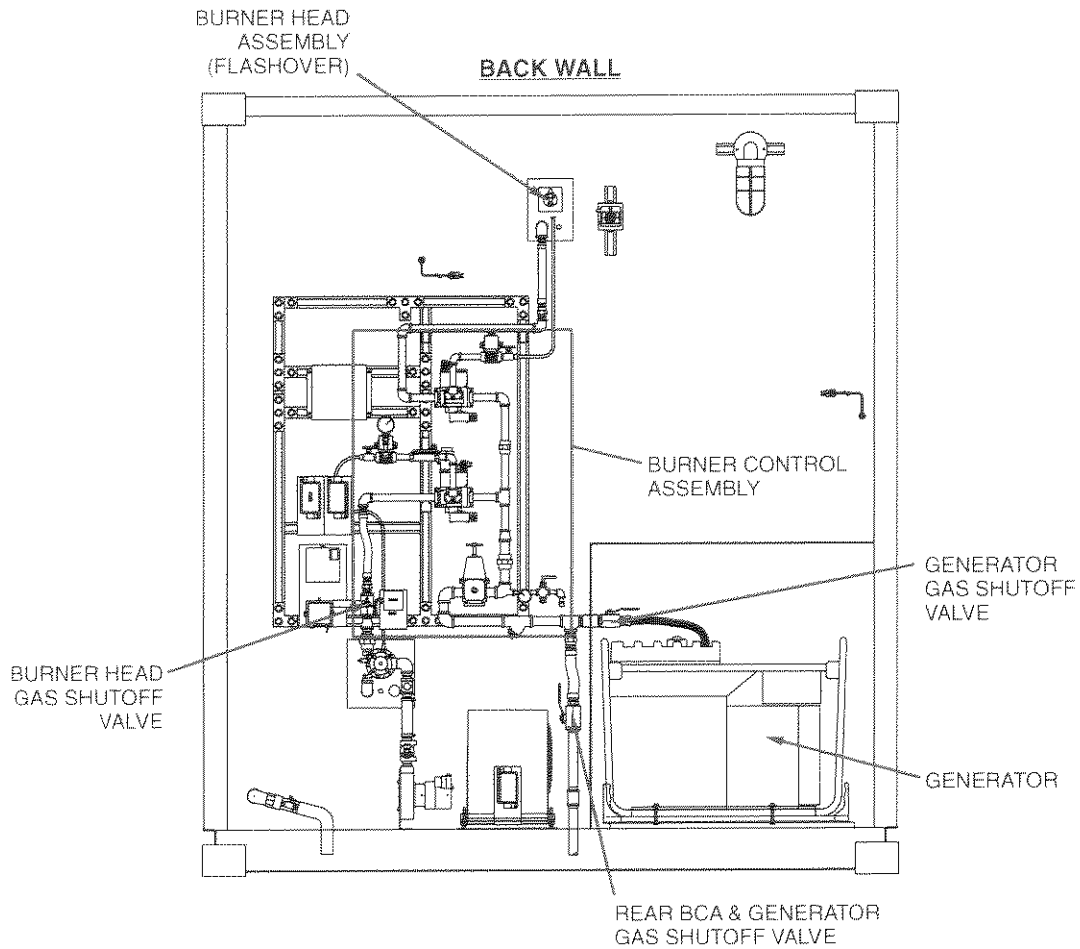

Figure 3-11 Propane Gas Shutoff Valves (Equipment Room Back Wall)
8. Open gas shutoff valve to Rear fireplace Burner Control Assembly (Figure 3-11)
11. At the Rear Equipment Room open gas shutoff valve to Rear fireplace Burner Control Assembly (BCA) and generator (Figure 3-11).
7. Slowly open the gas shutoff valve for the generator (Figure 3-11).